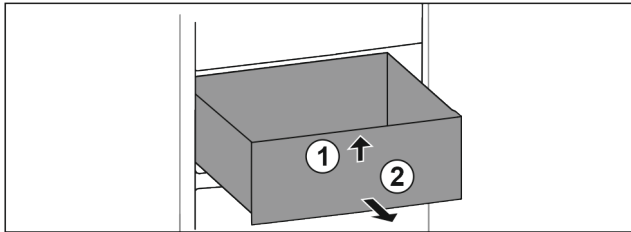

Fig. 30
- ▶ Lift up drawer at the front. Fig. 30 (1)
- ▶ Remove drawer to the front. Fig. 30 (2)